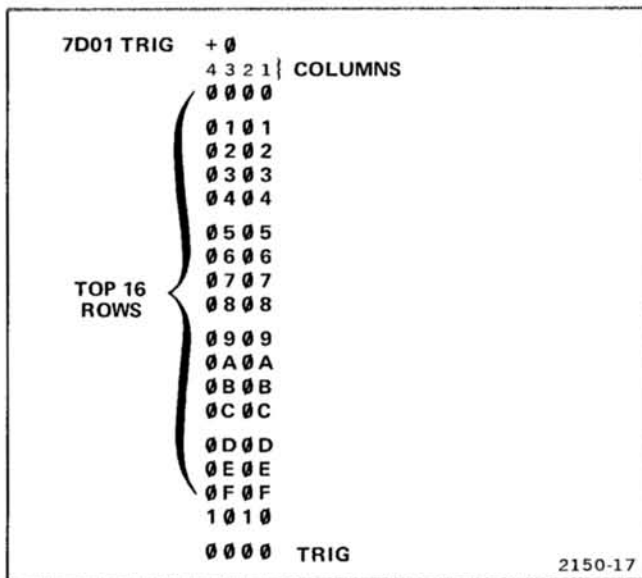

Figure 7-3. Hexadecimal State Table display.
d. Check that the top 16 rows of columns 1 and 3 display 0 through F (see Figure 7-3).